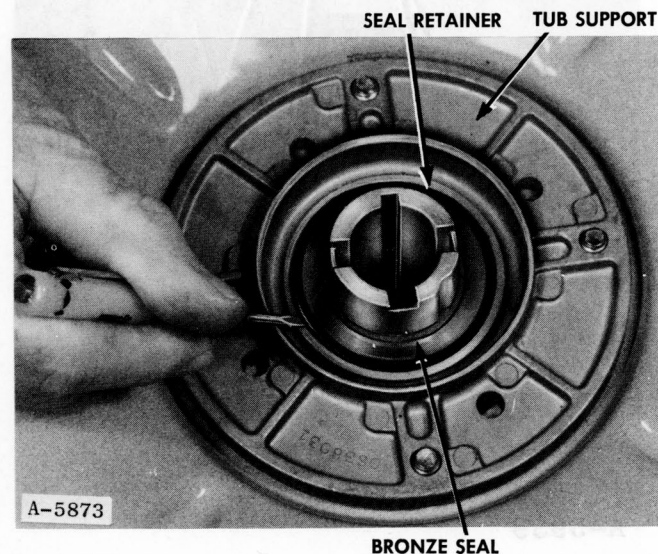

Figure 77
8. See Figure 77 for seal removal from tub support.
2. Remove the seal ring and seal ring retainer from the tub support Figure 77. Thoroughly clean the surface of tub support that contacts the seal ring retainer before reassembly.